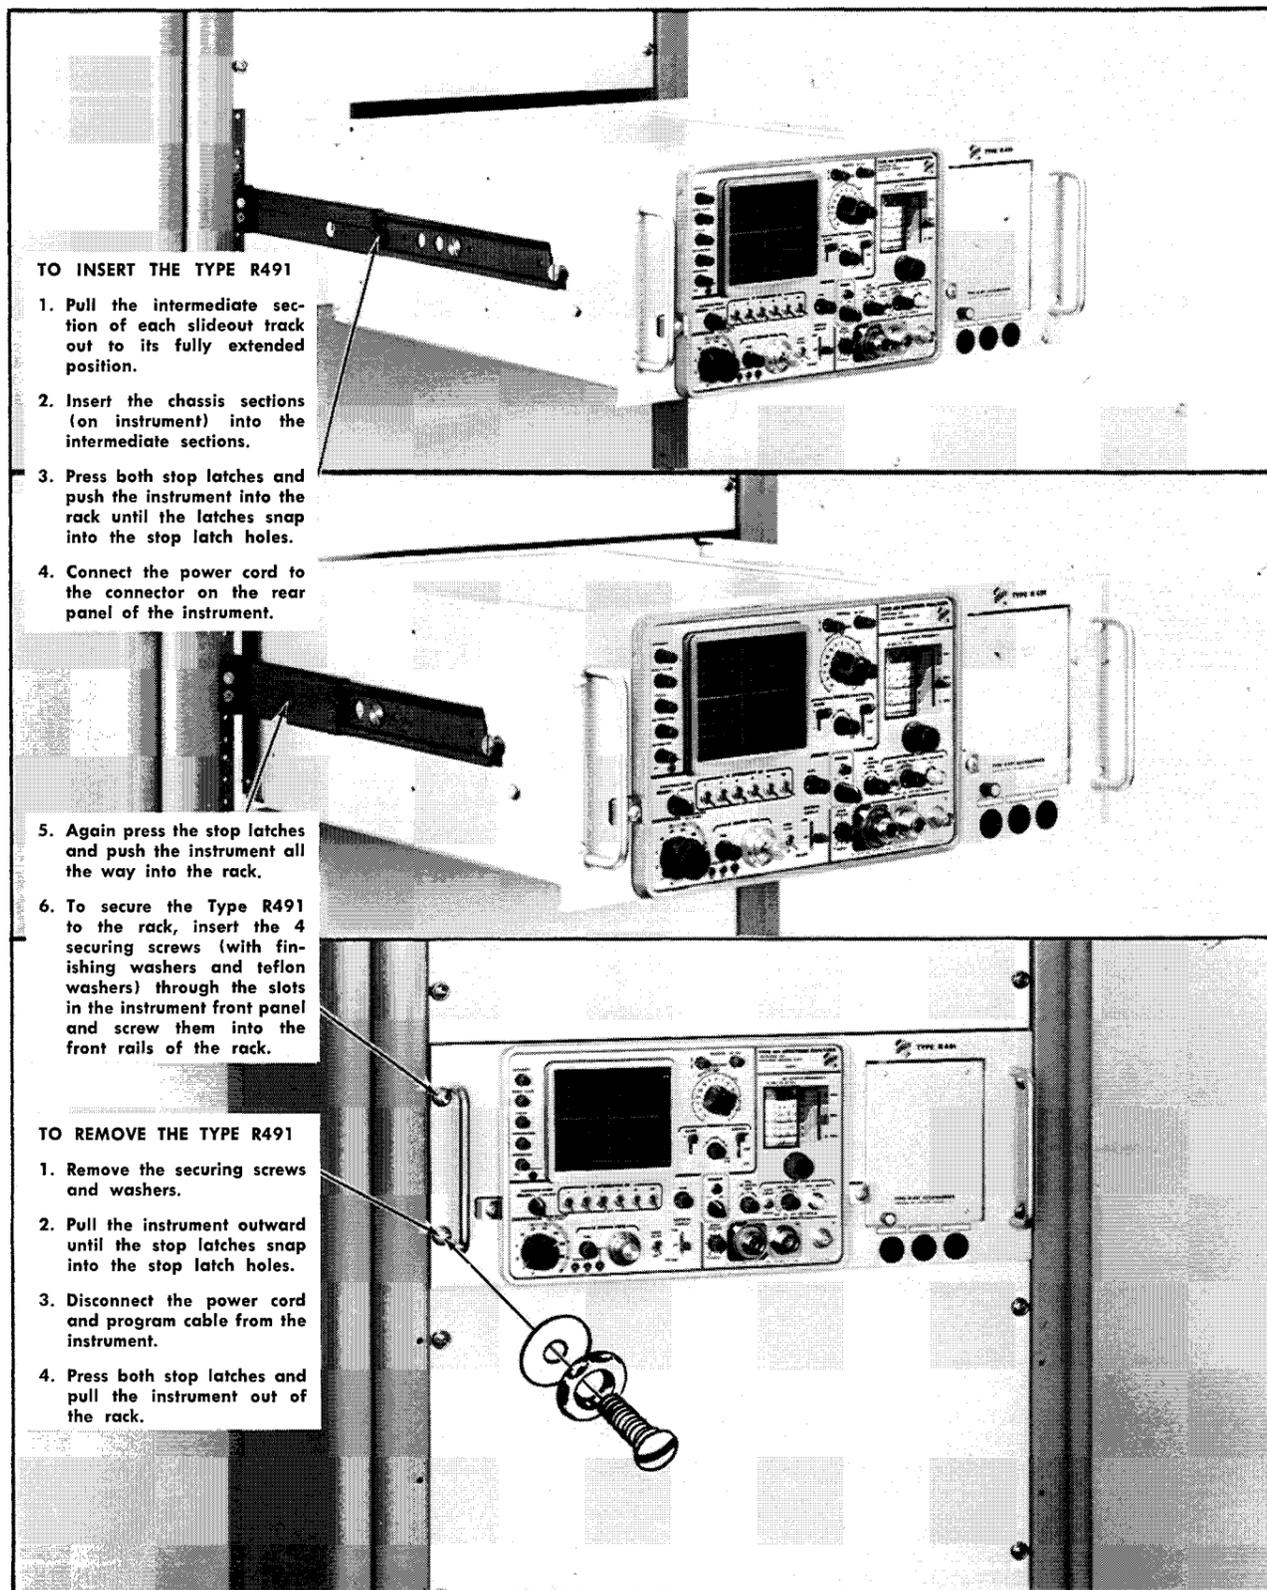

Fig. 10-9. Procedure for inserting or removing the instrument after the slide-out tracks have been installed.
5. Insert the instrument and cabinet into the rack. See Fig. 10-9. Do not connect the power cord or install the securing screws until all adjustments have been made.